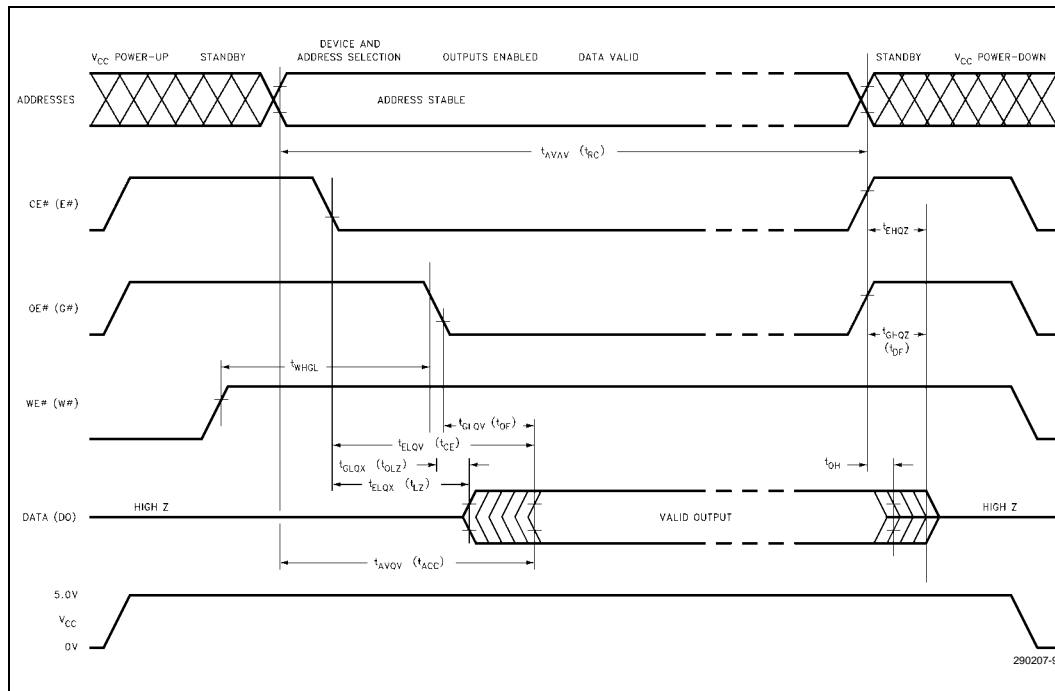
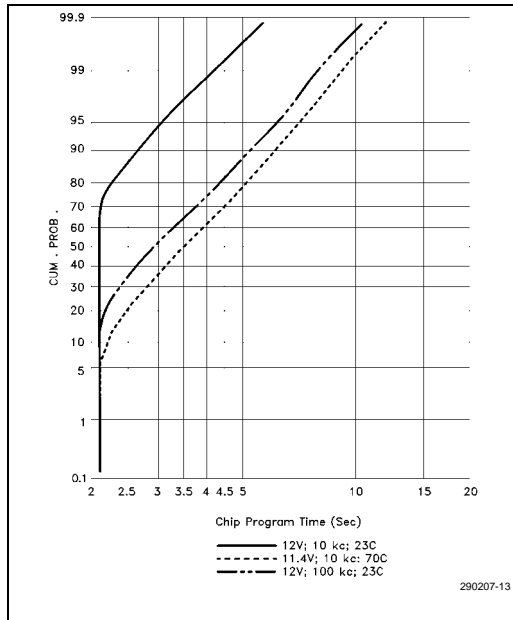

Figure 8. AC Waveforms for Read Operations
Figure 9. 28F010 Typical Programming Capability
4. See *High Speed AC Testing Input/Output Waveform* (Figure 8) and *High Speed AC Testing Load Circuit* (Figure 9) for testing characteristics.